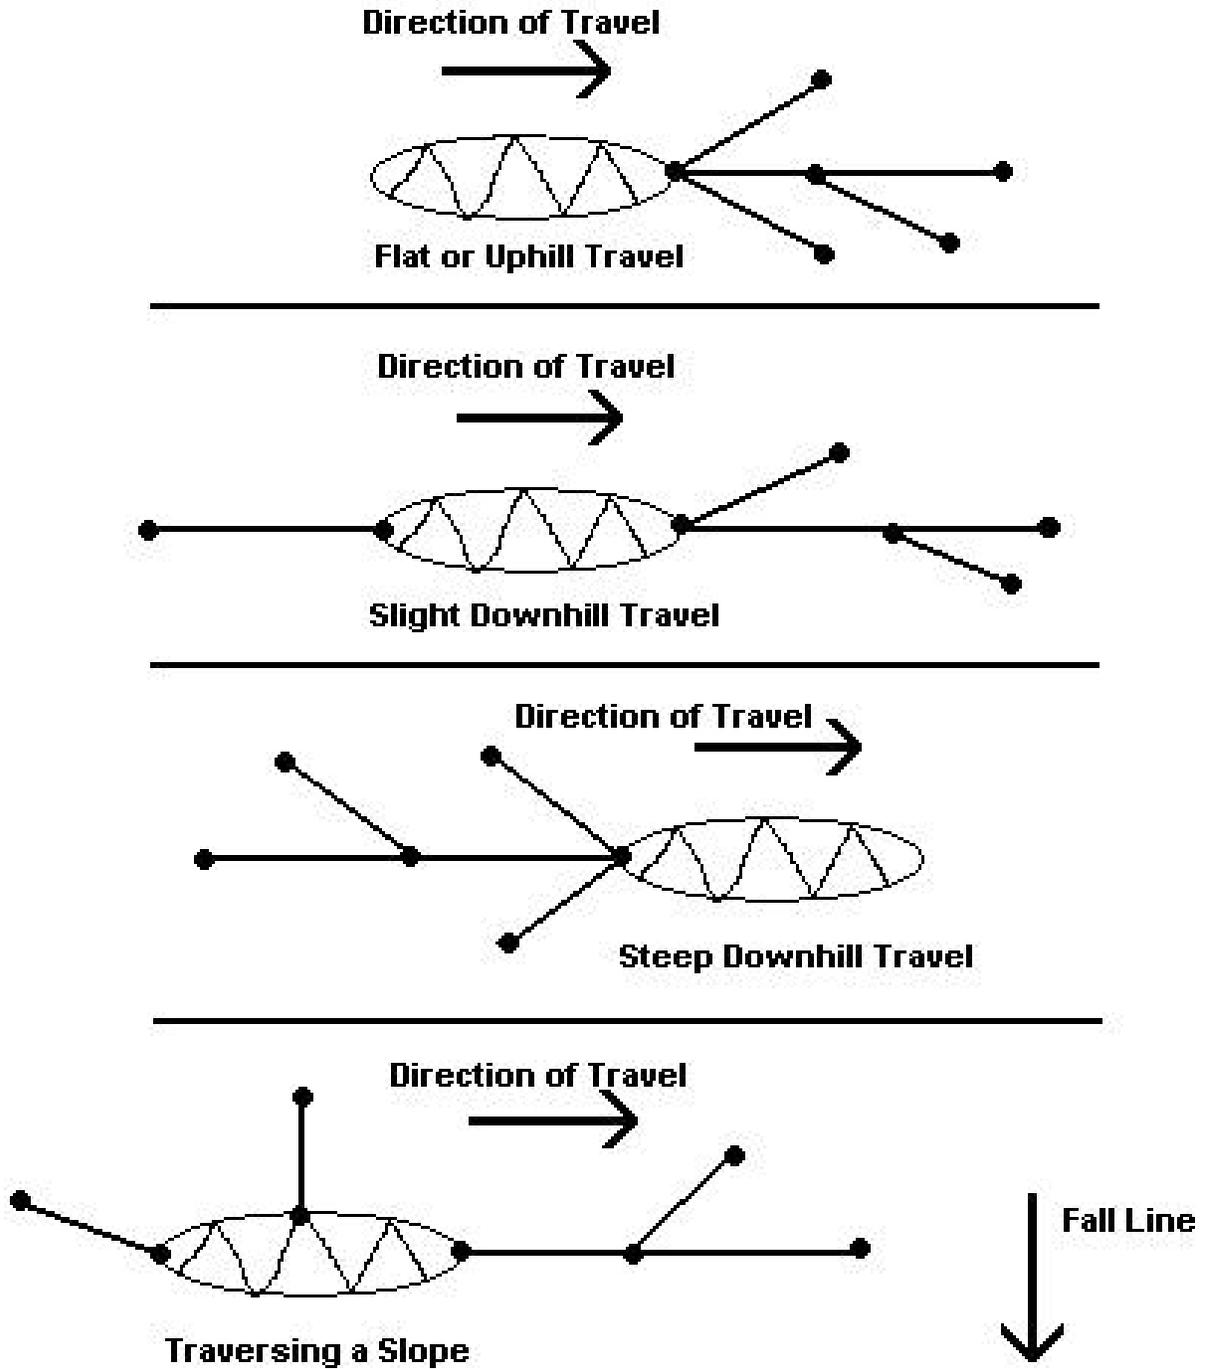

Fig. 8-1 Ahkio Pulling Configurations
C. Towing arrangement. Utilize the correct towing arrangement for the terrain. Personnel may have to disconnect their tow-rope from the ahkio and reconnect it at a different attaching point as the terrain changes. There are different configurations for flat ground, ascending, descending, and moving side-slope (see figure 8-1).